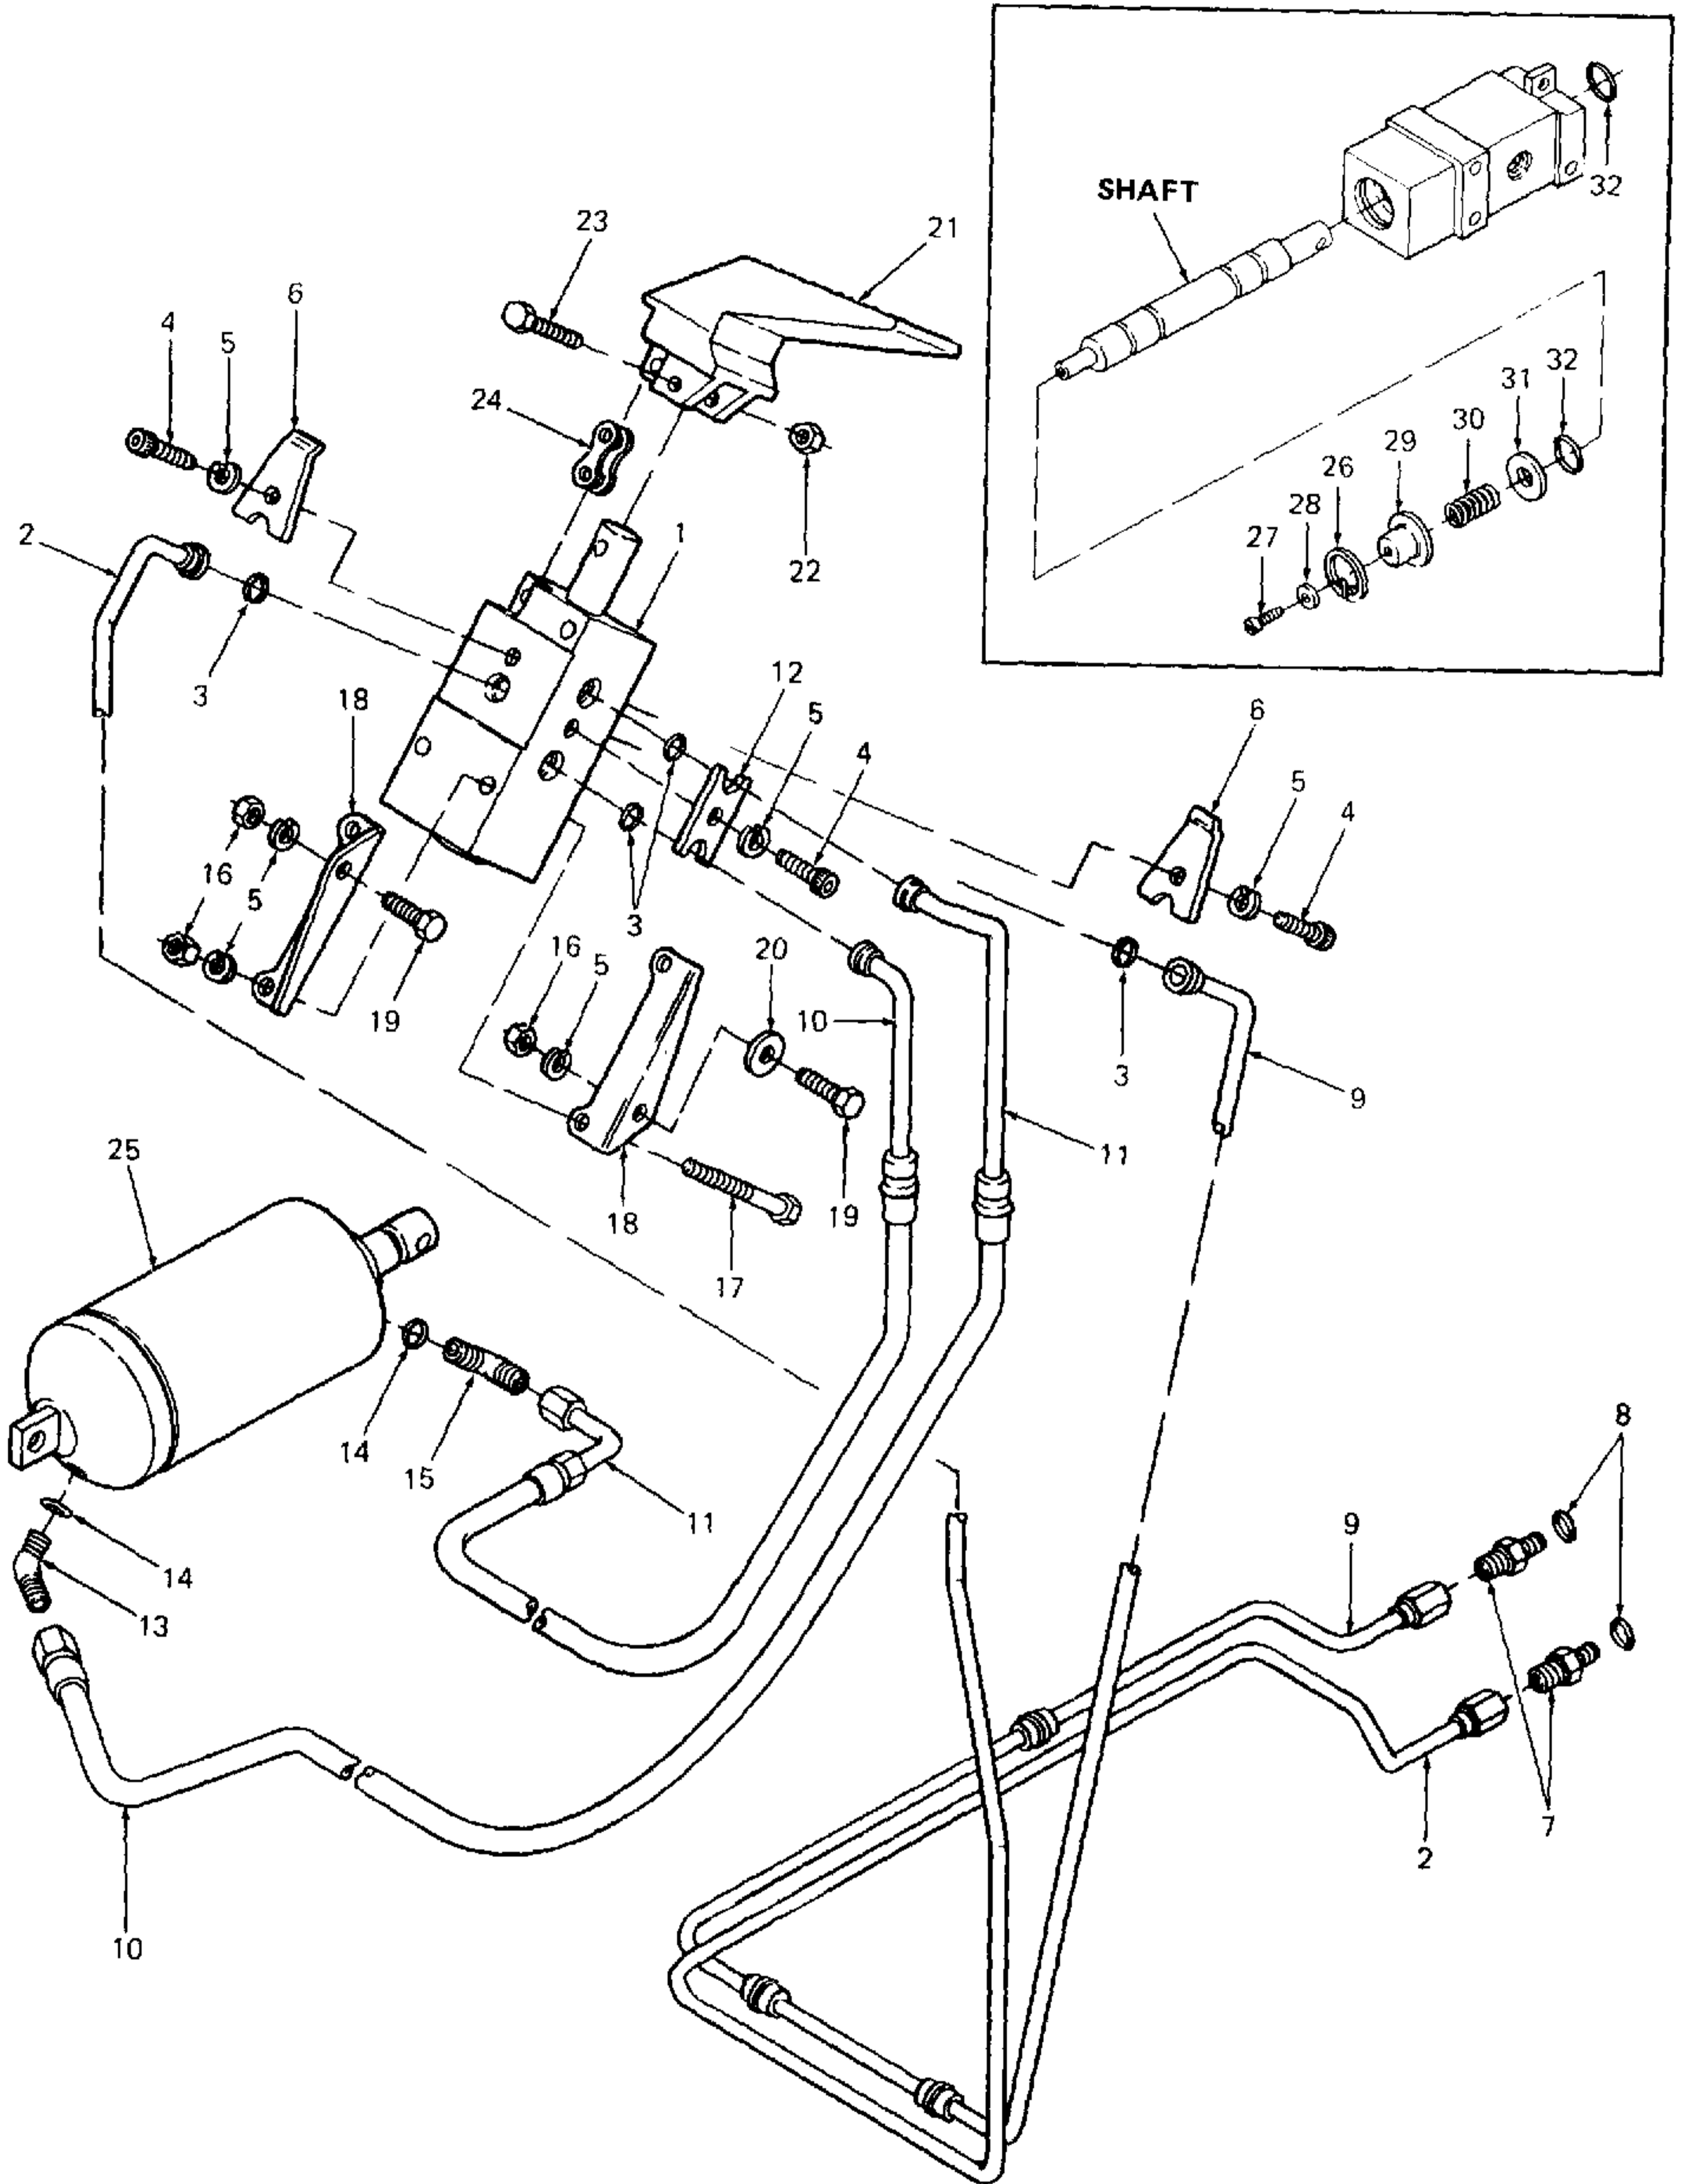
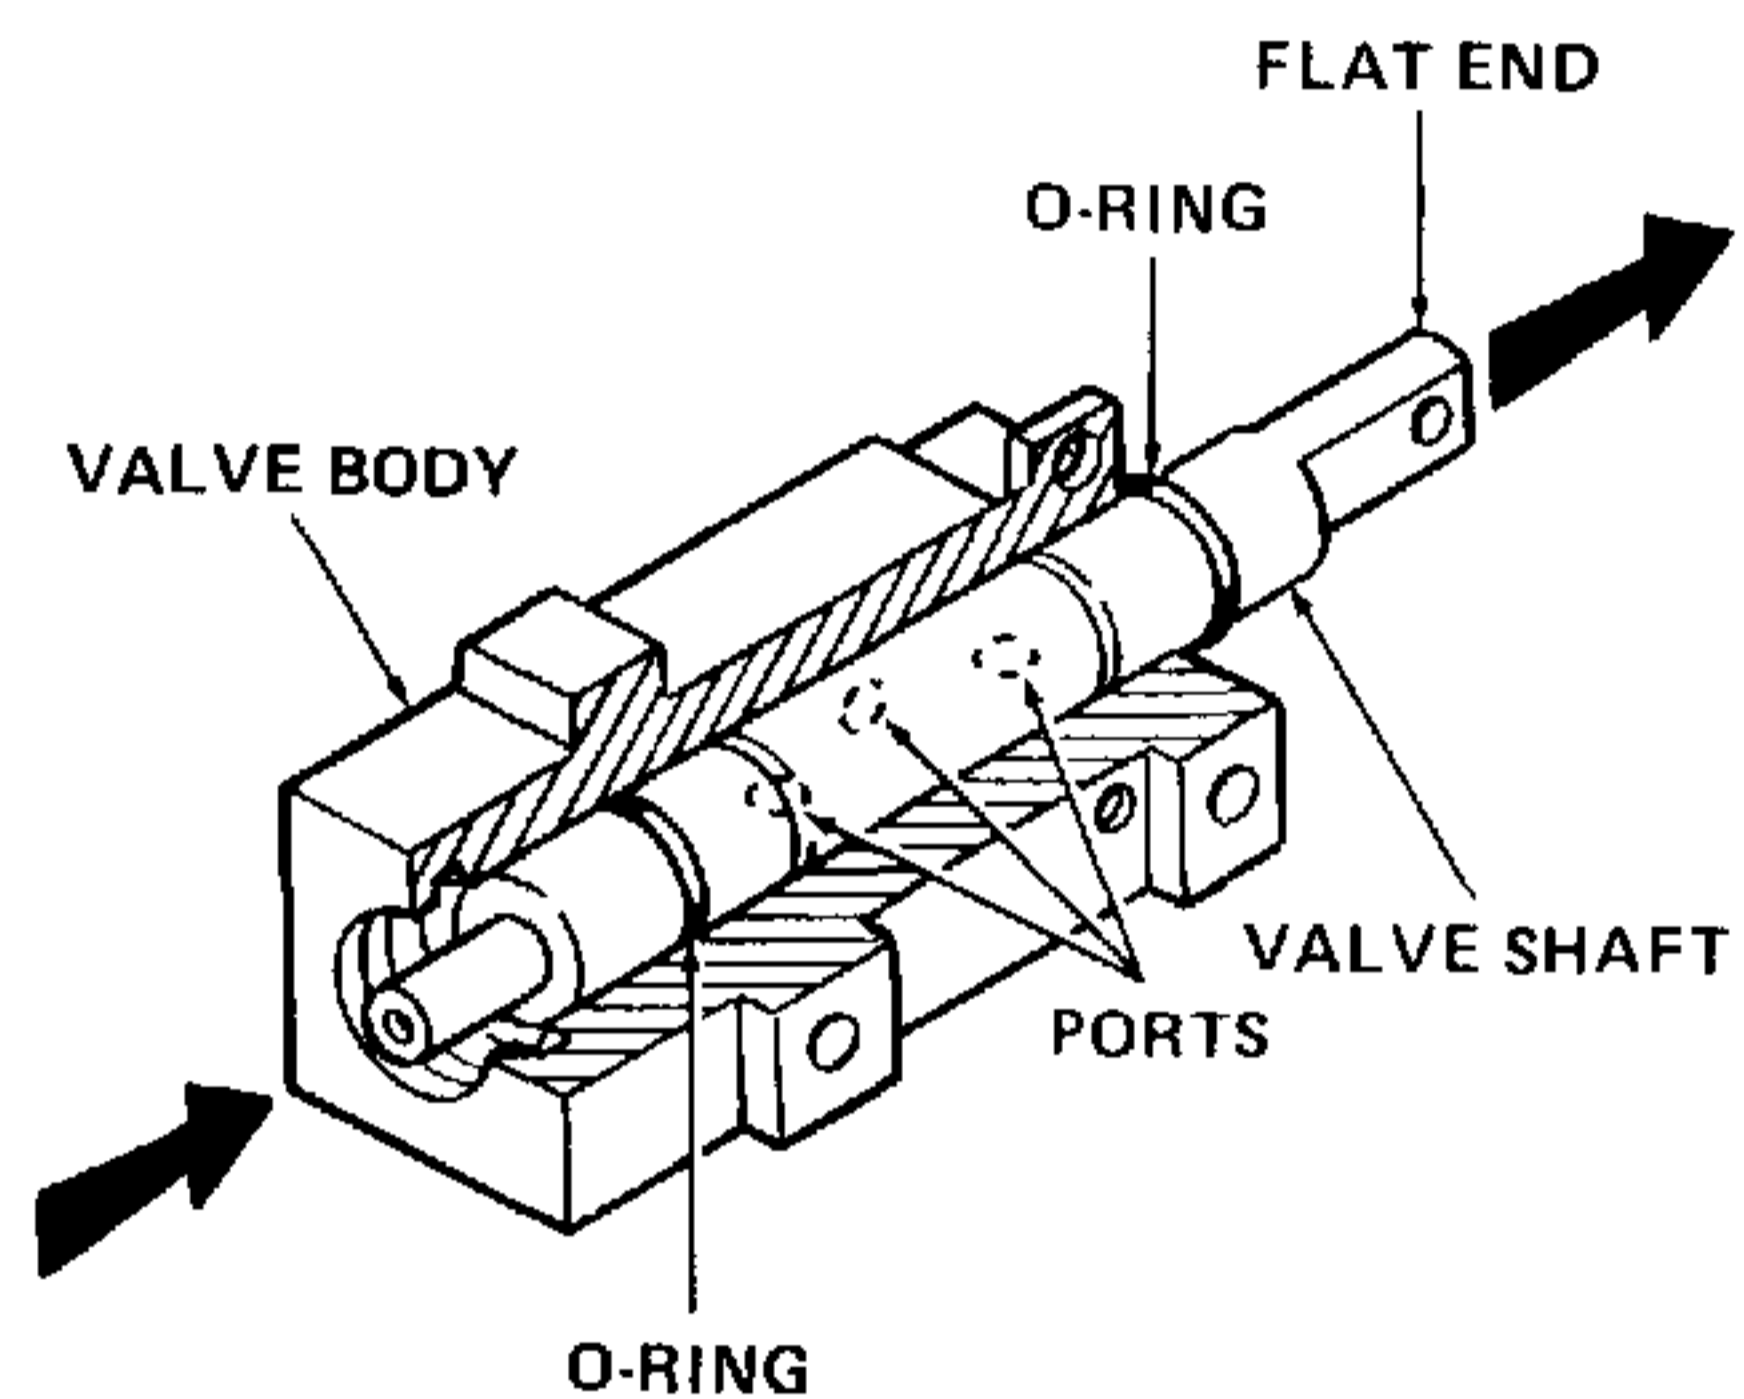

Figure 5-51. Hydraulic Lift Controls (Model 1541).
Figure 5-54. O-Rings Correctly Installed on Valve Shaft.
- a. Remove return tube assembly (2, Figure 5-51) as follows:
- (1) Remove tube (2) and O-ring (3) from lift valve (1) by removing socket head cap screw (4), lock washer (5) and single clamp (6). Discard O-ring (3).
- (2) Remove tube (2) from hydrostatic transmission by loosening nut. Remove 37 degree tube connector (7) and O-ring (8). Discard O-ring (8).
- b. Remove pressure tube assembly (9) as follows:
Legend for Figure 5-51
- d. Place O-ring (32, Figure 5-51) on O-ring groove on flat end of shaft. Refer to Figure 5-54.
- f. Place flat washer (31, Figure 5-51), compression spring (30) and centering cup (29) on shaft.